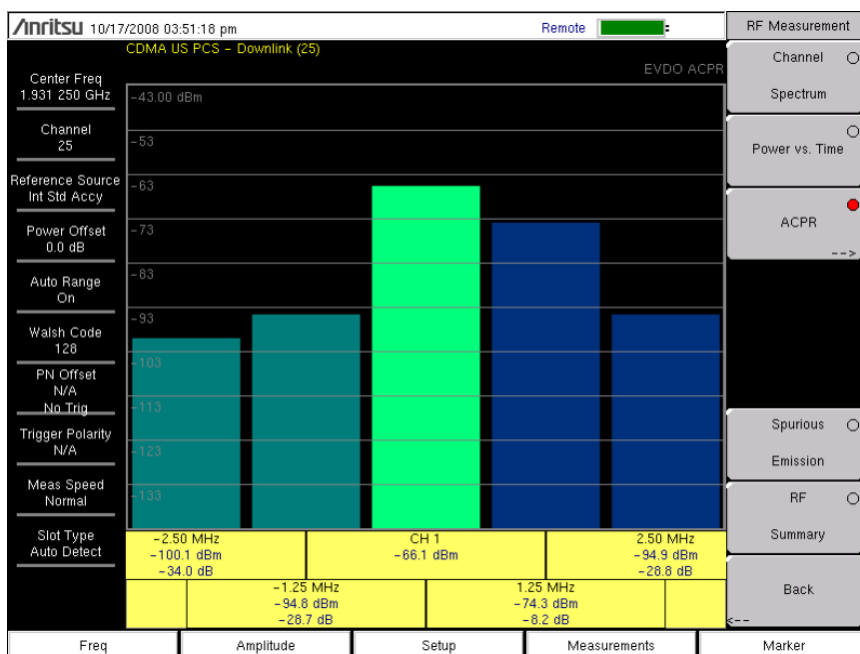

Figure 3-4. EVDO ACPR Measurement
1. Press the ACPR submenu key to activate the ACPR measurement (Figure 3-4). The red dot on the submenu key indicates that it is selected.